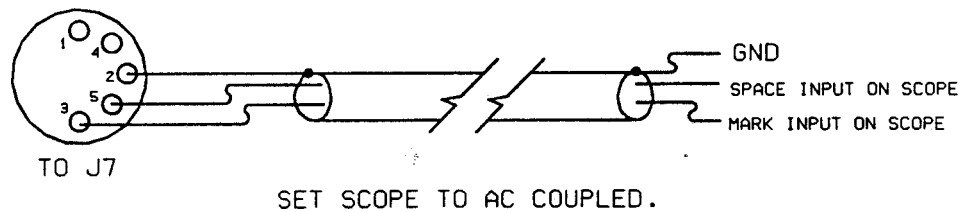

Figure 3-5 Connector J7 Oscilloscope Tuning Connections
- o See figure 3-5 below for connections to J7.